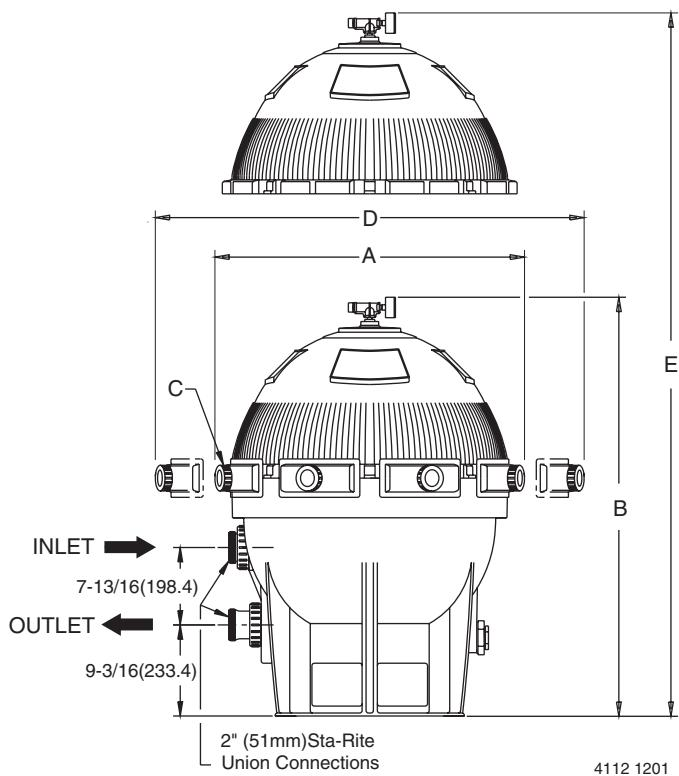

FIGURE 1 – Dimensions in inches (mm)
- Provide space and lighting for easy access for routine maintenance. (See Figure 1 and Table II, Page 6, for space requirements.)
- For installation allowing backwashing, install Sta-Rite Two Position Slide Valve or Multiport Selector Valve with filter. See Table I. If you intend to clean your filter according to “Module Cleaning Procedure”, Page 10, no slide or multi-port valve is required. See Figures 1 and 2, Page 6, for correct water flow when connecting pipe.